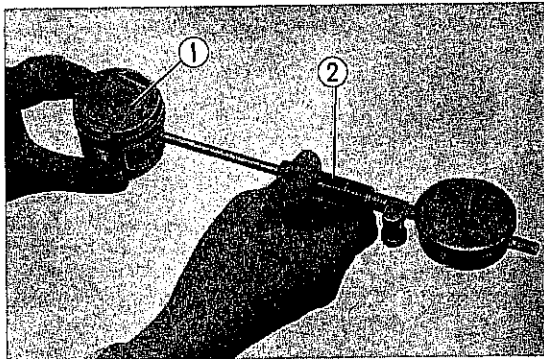

Fig. 74 ① Piston ② Cylinder gauge
3. Install the piston on the connecting rod with the piston pin and clips so that the ▲ mark on the piston head points toward the front (exhaust side) as shown in the Fig. 74.